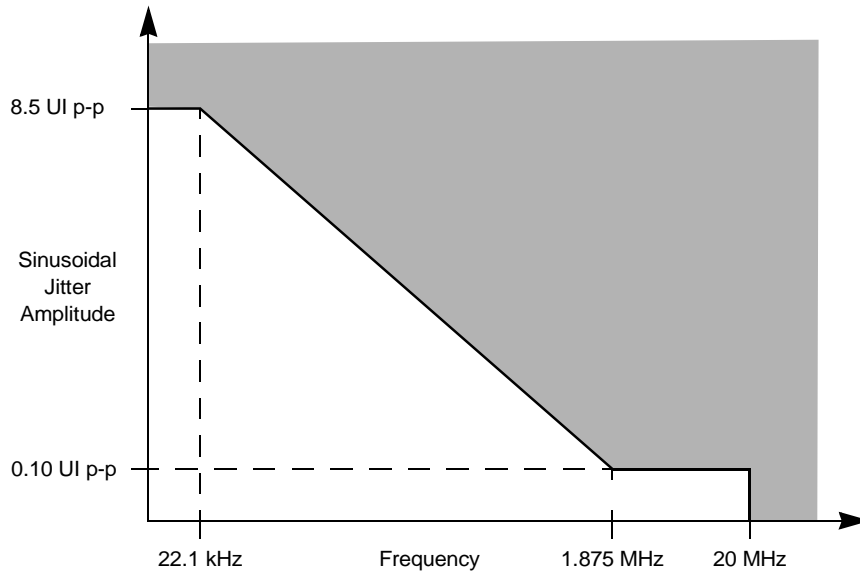

Figure 18. Single Frequency Sinusoidal Jitter Limits
2. Total jitter is composed of three components, deterministic jitter, random jitter, and single frequency sinusoidal jitter. The sinusoidal jitter may have any amplitude and frequency in the unshaded region of Figure 18. The sinusoidal jitter component is included to ensure margin for low frequency jitter, wander, noise, crosstalk, and other variable system effects.
- See Figure 18 for single frequency sinusoidal jitter limits
- Refer to RapidIO™ 1x/4x LP Serial Physical Layer Specification for interpretation of jitter specifications. Also see Figure 18.